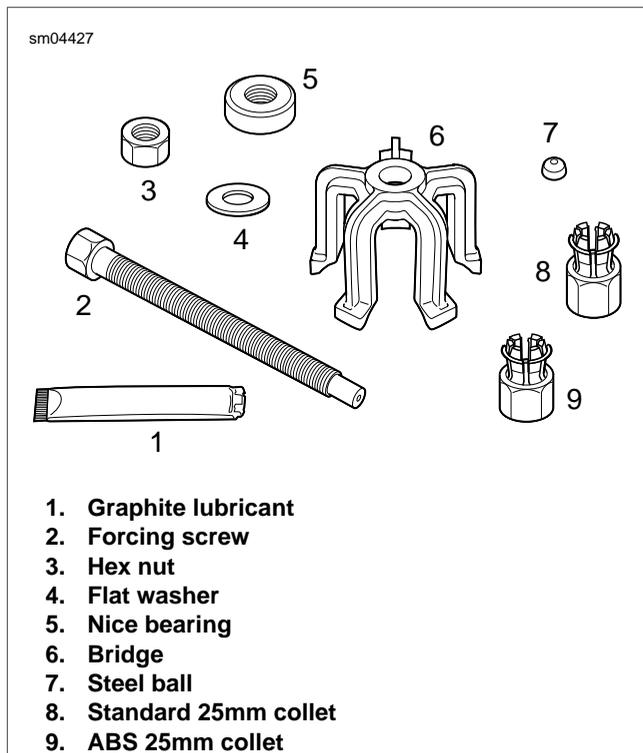

Figure 2-26. Wheel Bearing Remover Tools (HD-44060B)
- Pick out the wheel bearing remover tools. See Figure 2-26.